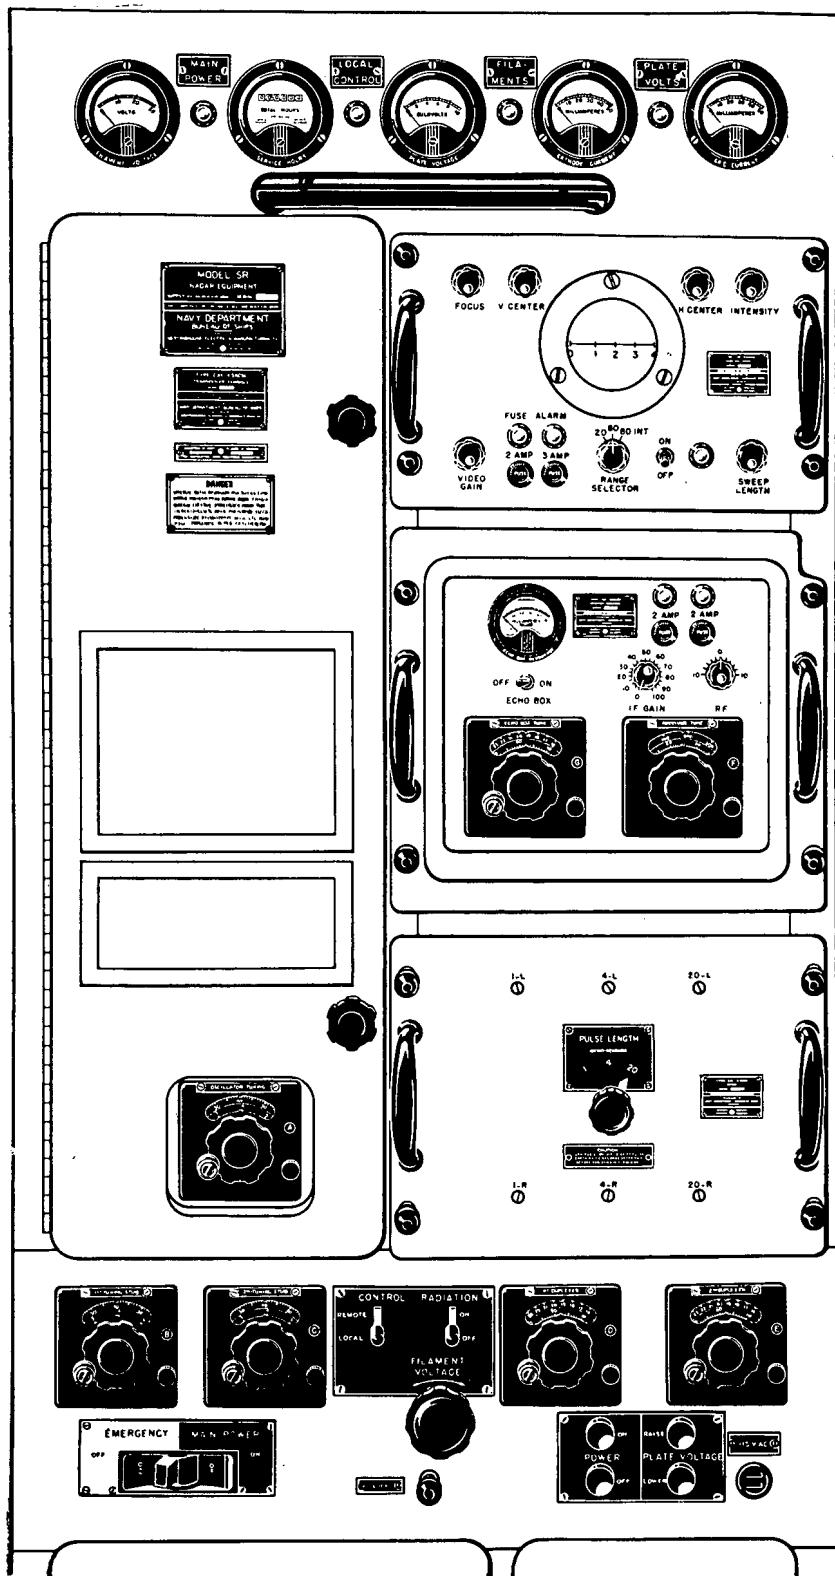
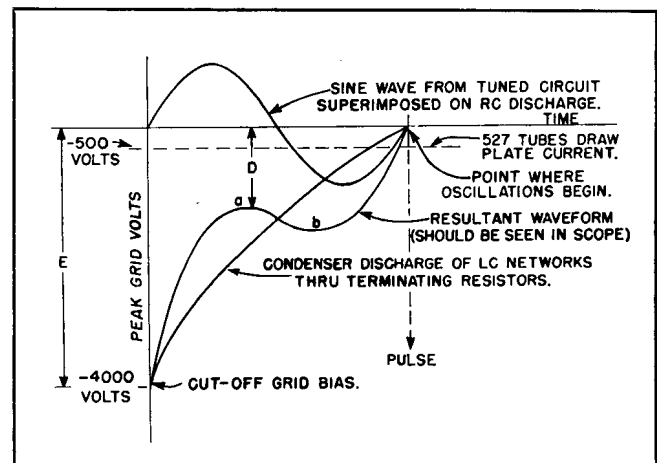

Figure 7-98. Transceiver, Operating Controls
Figure 7-99. Keyer Pulse Waveform Development
(1) Connect the grid straps to the type 527 oscillator tubes according to the frequency range of the Antenna in use. If operation is desired in the *blue* or highest frequency band, both grid straps must be used. Connect one of these between the top grid prongs, taking care not to damage the tubes in the process. Connect the other grid strap between the lower grid terminals. If operation is desired in the *yellow-green*, or lower frequency band, place one shorting strap across the *lower* grid terminals of the tubes. Place corona balls on the two upper grid terminals. When installing grid straps be sure that the center lock screw is loose. Tighten the knurled nuts at the grids first and then tighten the center screw.
(2) Check the duplexer length. When operating on the blue band, adjust the duplexer length so that the distance between the lower edge of the flange of the upper U-shaped casting connecting the two duplexers and the center of the spark gap adjustment knob is $9\frac{7}{8}$ inches. For the yellow-green band, the distance should be approximately $11\frac{7}{8}$ inches. This adjustment is available when the back cover of the Transceiver is removed.
(3) Check the setting of the duplexer spark gaps. The gaps should be between $\frac{1}{32}$ and $\frac{1}{16}$ of an inch or roughly one turn of the adjustment knob. These gaps may be observed through openings in the duplexer when the Monitor Receiver is removed from the Transceiver, or when it is slipped forward and the right side shield of the Transceiver is removed.
(4) Place the CONTROL switch S-107 in its LOCAL position. See Fig. 7-98.
(5) From the calibration chart on the front of the
(6) Place the PULSE LENGTH switch S-158 on the panel of the keyer compartment in its 20 microsecond position. This switch is shown in Fig. 7-98.
(7) Place the EMERGENCY-MAIN POWER switch S-101 in its ON position. After five seconds the time delay relay in the Transceiver will operate to permit d-c voltage to be applied to the plates of the oscillator tubes.
(8) Set the filament voltage to 10 volts on the FILAMENT VOLTAGE meter by adjustment of the FILAMENT VOLTAGE control T-106. See Fig. 7-98 for the location of this control.
(10) Adjust the cam controlling microswitch S-111 using the above procedure, so that this switch is open for plate voltages above 700 volts.
(11) Connect an oscilloscope to the grid pulse jack, J-106, on the Transceiver panel. Use the internal horizontal sweep frequency of the oscilloscope and adjust it to approximately the repetition rate of the transmitter which is 60 cps. Make final adjustments of the oscilloscope repetition rate after the signal is applied. Rotate the Antenna until it faces the Echo Box Antenna.
(12) Raise the plate voltage by pushing the RAISE switch S-105 until the PLATE VOLTAGE meter indicates 8 kv with the RADIATION switch in its OFF position.
(13) Place the RADIATION switch ON momentarily and observe the shape of the Keyer waveform on the test oscilloscope. It should be as shown in Figs. 7-99 and 7-100. The plate voltage should increase to 11 kv when the RADIATION switch is operated.
(14) If the waveform is not correct, adjust the 20-R controls a step at a time and repeat (13) after each adjustment. The 20-L control is a Vernier between steps on the 20-R control. If the overload relay trips, back the 20-R control off one step and find the correct operating point with the 20-L control. See Fig. 7-98 for the location of these controls. The result of proper Keyer adjustments is an increase in the life of the oscillator tubes and an increase in the overall operating efficiency of the Transmitter. Ideal conditions exist when the discharge period of the RC network is equal to the natural period of the synchronizing voltage, as is shown in Fig. 7-99. The positive peak of the resultant waveform should always be at least 15% of the overall waveform amplitude, or excessive oscillator tube heating will occur. Adjust the R and L tap switches until the conditions shown in Fig. 7-99 are satisfied. Distance *D* should never be less than 15 per cent of the total waveform *E*. The top portion of the waveform should be steep and should not round off where oscillation begins. If R is properly adjusted, it should be possible to vary the L tap switch over three or four positions without causing unstable operation. If the waveform seen when operating on the 20 microsecond pulse has several humps between *a* and *b*, it is not an indication of an abnormal condition. These humps are caused by the 60 cycle external synchronizing voltage used only on the 20 microsecond position. It may be found that changing the operating frequency of the Transmitter from one position of the band to another may cause a change in the Keyer grid pulse waveform. For this reason, a test oscilloscope should be used for observing the grid pulse waveform whenever Transmitter tuning or Keyer adjustments are made. Fig. 7-100 shows actual photographs of typical oscilloscope patterns of the grid pulse waveforms.
(15) Place the Echo Box switch in its ON position. Tune the Echo Box, using the G dial on the Monitor Receiver panel, until a dip in the ECHO BOX
(16) Adjust the 1st TUNING STUB (B) dial and the ECHO BOX TUNE (G) dial alternately for maximum deflection on the ECHO BOX RESONANCE meter. If the waveform changes during this adjustment, readjust the L and R controls on the Keyer and then continue the adjustment of the B and G dials.
(17) Repeat step (16) using the 2nd TUNING STUB (C) dial and the G dial used in step (16).
(18) Repeat steps (16) and (17).
(19) Place the RADIATION switch in its OFF position and place the PULSE LENGTH switch in its 4 position. Place the RADIATION switch in its MOMENTARY position for a brief period of time and observe the shape of the grid pulse. Compare its shape with the ideal shapes shown in Figs. 7-99 and 7-100.
(20) Adjust the 4-R and 4-L controls shown in Fig. 7-98 using the technique described in step (14). Do not disturb the setting of any other controls during this procedure.
(21) Repeat steps (19) and (20) using the 1-R and 1-L controls and the 1 position of the PULSE LENGTH switch. See Fig. 7-98. Check the waveforms against the 1 microsecond waveforms in Fig. 7-100.
(22) Place the ON-OFF switch on the Monitor Scope in its ON position. See Fig 7-98.
(23) Adjust the V CENTER control (R-324) until the sweep trace coincides with the etched line on the face of the tube.
(24) Adjust the H CENTER control (R-322) until the start of the sweep trace coincides with the O position etched on the face of the tube.
(25) Place the FOCUS control (R-331) in approximately the center of its range of rotation. For the location of this control see Fig. 7-98.
(26) Adjust the FOCUS BALANCING control (R-335) to obtain maximum definition and uniformity
(27) Adjust the RANGE SELECTOR switch S-301 to the 20 position. Adjust SWEEP LENGTH control R-313 until end of sweep coincides with 4 on the scale.
(28) Place the PULSE LENGTH switch in its 20 position and then place the RADIATION switch in its ON position.
(29) Set the RF control on the Monitor Receiver at 0, and set the IF GAIN control at 100. See Fig. 7-98.
(30) Adjust the RECEIVER TUNE (F) dial until target echoes appear on the Monitor Scope. Reduce the setting of the IF GAIN control through the remainder of this procedure as necessary.
(31) Adjust the 2nd DUPLEXER (E) dial for maximum echo amplitude and then adjust the 1st DUPLEXER (D) dial for maximum echo amplitude.